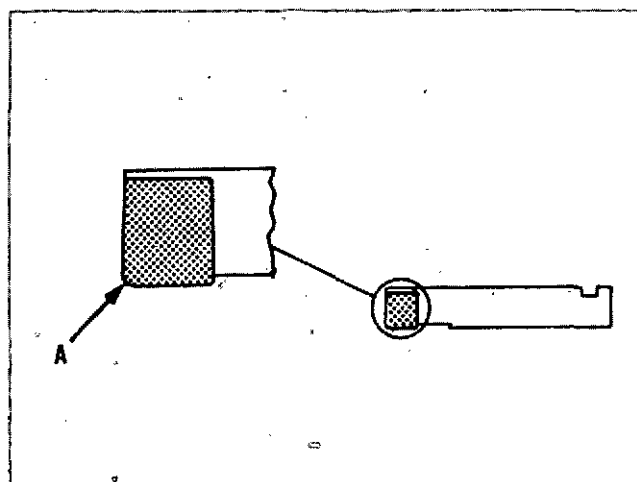

Fig. 1-1-28, N20148. Counterboring tool bit specifications
- b. A correctly ground tool bit is shown in Fig. 1-1-28. Point A is 0.008 to 0.012 inch [0.2032 to 0.3048 mm] radius; side surface must be ground flat to sharpen.